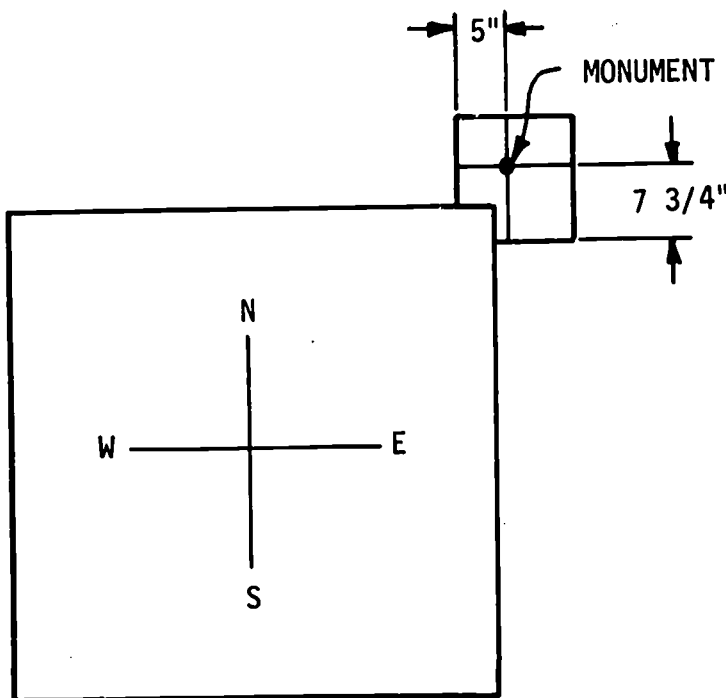

Fig. 7-3. Monument Board Placement
4. Find and mark the approximate center of the plywood. Draw lines to show the compass points. See Fig. 7-3. Make sure that the north-south and east-west lines are parallel to the edges of the plywood.
6. Place the small monument board at the northeast corner of the large plywood board. See Fig. 7-3.